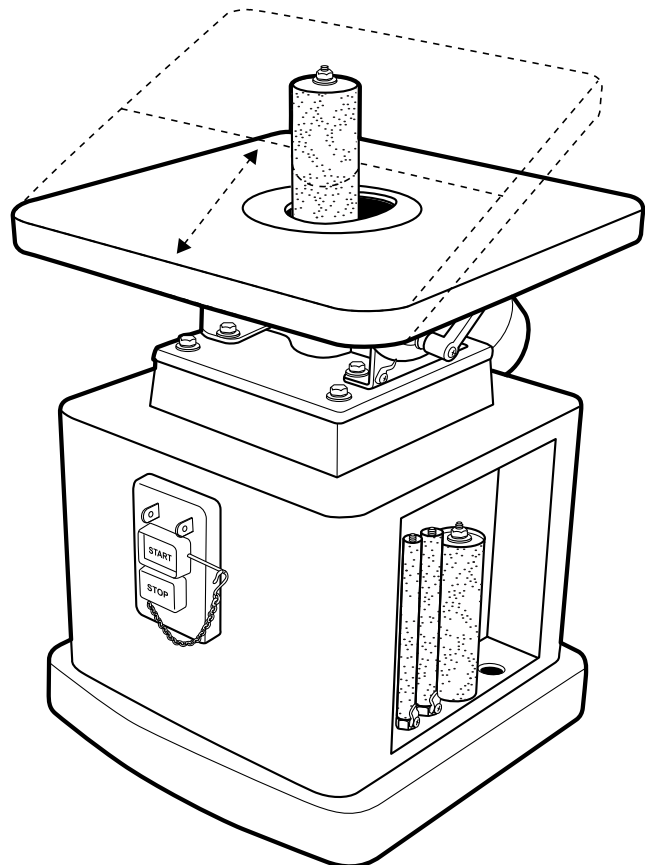

FIGURE 9
- Hold the work piece firmly and work from a stable standing position. When the table is fully horizontal (90°), you may sand from any part of the table. When the table is tilted, make sure the work piece is positioned on the front half of the table, see Figure 9.